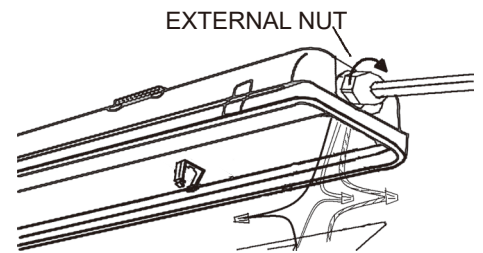

Figure 9
9. Feed supply wire through fitting. Make sure supply wire is long enough to make connection. **See Fig.9.**
11. Tighten external nut on water-tight fitting to seal wire entering into fixture. **See Fig.9.**